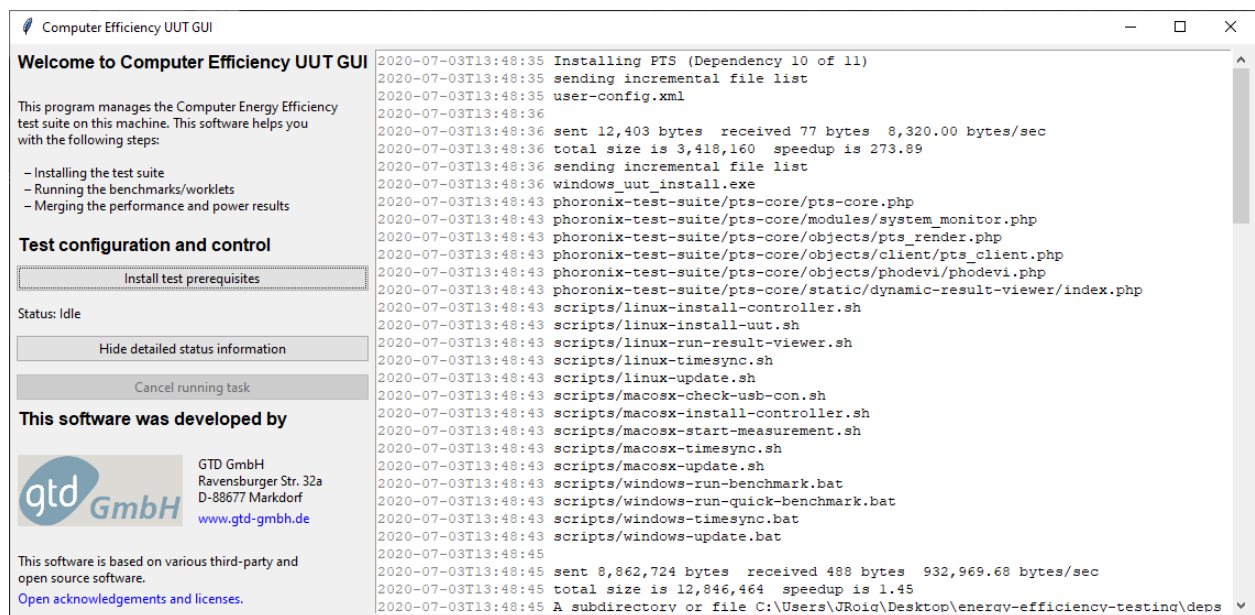

Figure 7.4: Test Suite installation GUI with terminal deployed
- Click on "Install test prerequisites". You can check the current status of the installation on the "Status" field on the bottom left side of the GUI. If you want more detailed information, click "Show detailed status information". A text box containing more log messages is then presented (see Figure 7.4)
- Click "Install test prerequisites". You can check the current status of the installation on the "Status" field on the bottom left side of the GUI. If you want more detailed information, click "Show detailed status information". A text box containing more log messages is then presented (see Figure 7.4)